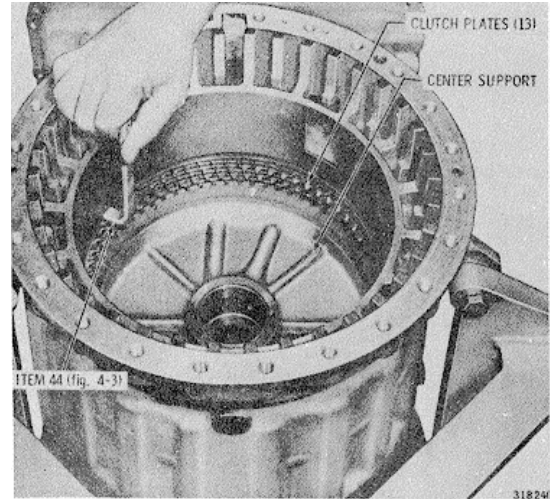

Fig. 7-7. Checking second clutch plate clearance
(5) Remove the thirteen first clutch plates from the transmission housing. These plates are now preset for proper clearance and should be maintained as a package for final installation.
(6) Using gage 44 (Fig. 4-3), check the second-clutch plate clearance (Fig. 7-7). It is recommended the gage be placed between the transmission housing and the first steel plate. The prescribed running clearance is 0.095 to 0.145 inch (2.41 to 3.68 mm). Any dimension within .095 to 0.145 inch is satisfactory. However, the closer the clearance is to 0.095 inch, the longer the interval between clutch plate replacements will be. Clearance must not be less than 0.095 inch. Replace worn plates with new plates to establish the desired clearance. Recheck the clearance as described above.